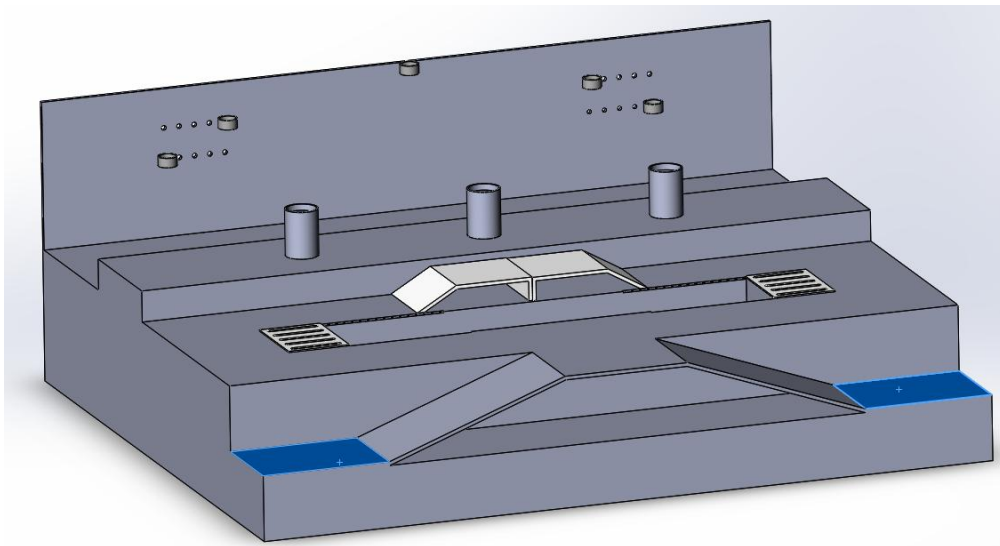

Fig.2 Start zones for two mission robots
**Start Zones:** There are total four start zones for robots. The zones in blue shown in Fig.2 are the start zones for two mission robots, they are not removable. The mission robots must start from the start zones, and any part of the mission robot can not touch the slope.
The mission robot must move from the zones shown in Fig.2 to the platform through the slope, this is the first step to get its first score of 10.